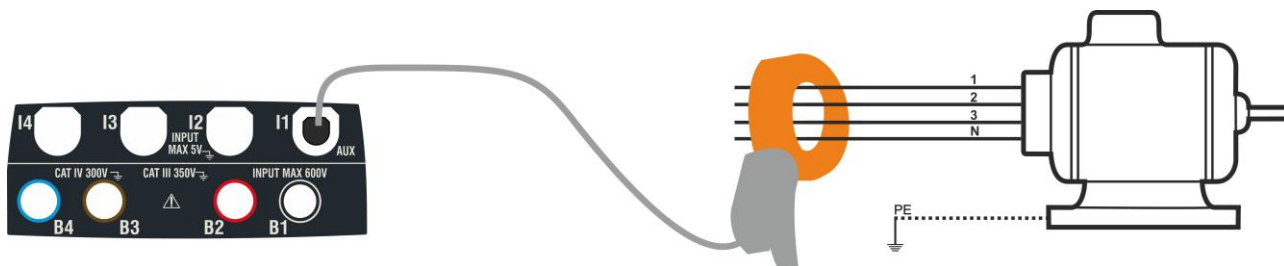

Fig. 6: Indirect measurement of leakage current in three-phase systems
5. For indirect measurements of leakage current, connect the external clamp according to Fig. 6. For direct measurements of leakage current, connect the clamp according to Fig. 7 and disconnect possible additional earth connections that could influence the test results.